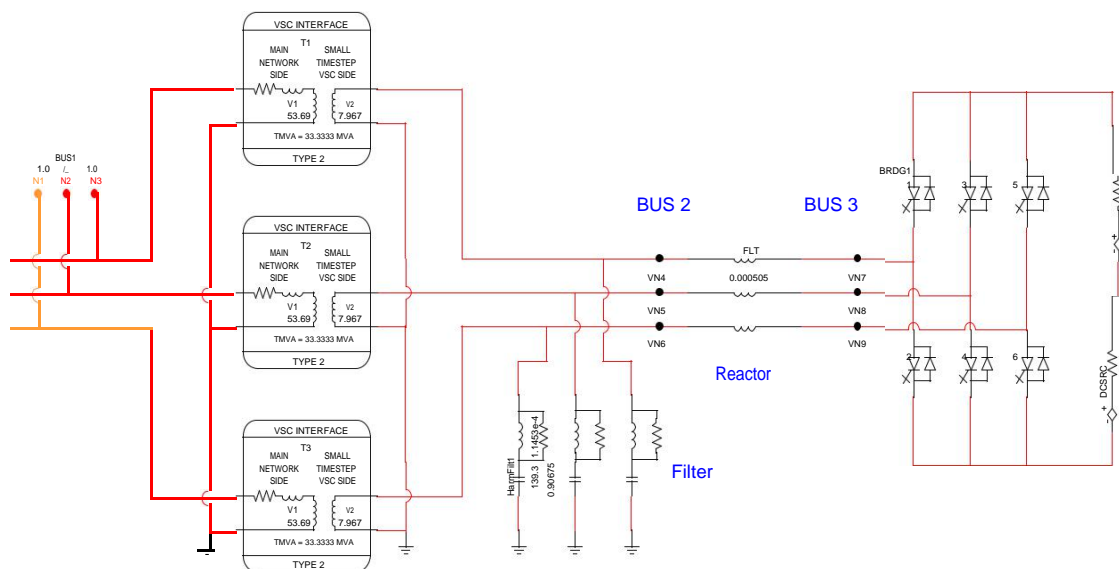

Figure 7
- (1) **Save the existing case under another name so that we can retain the case where everything is simulated using a small time-step.**
- (2) Replace the small time-step transformers with three single phase interface transformers (*rtds\_vsc\_IFCTRF1*). Figure 7 illustrates how this can be done.